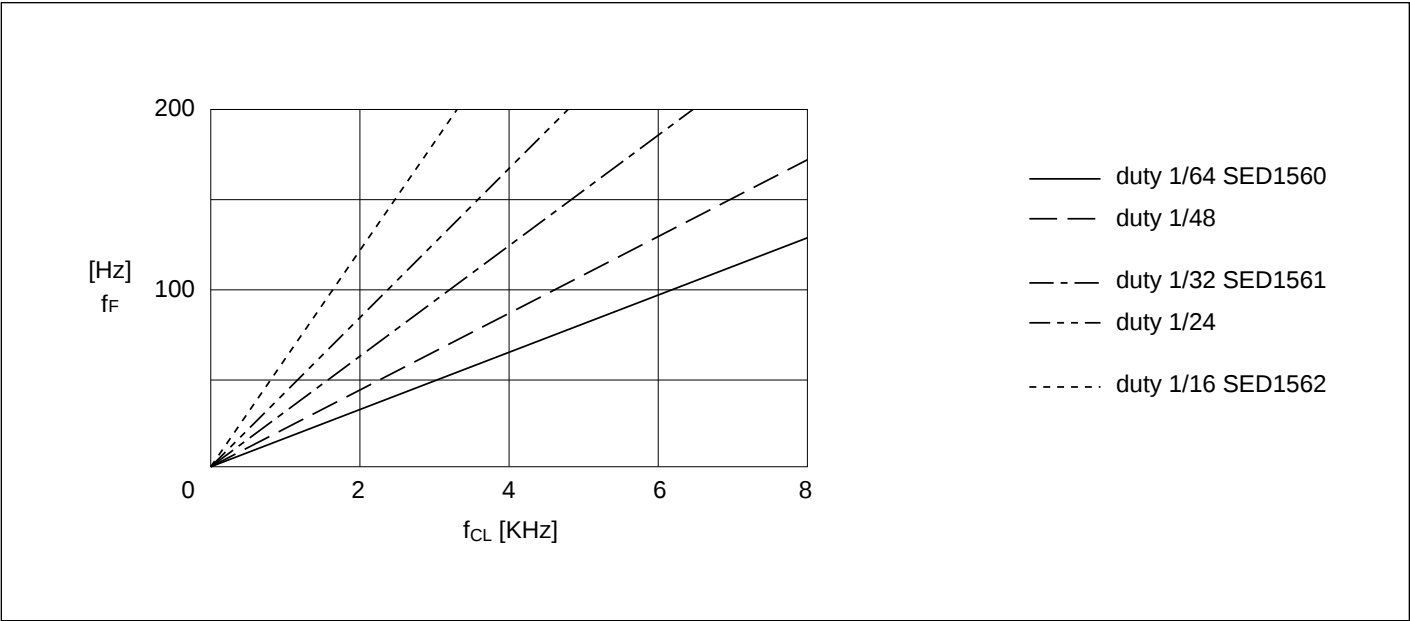
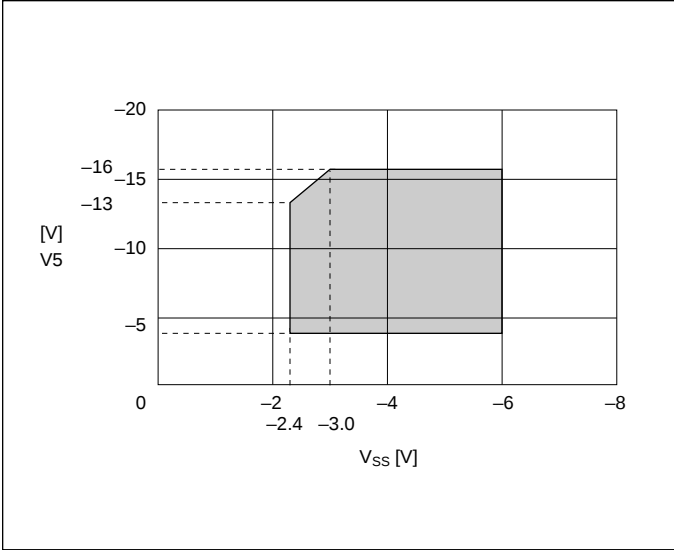

Figure 3.2 External clock (f_{CL}) vs. frame frequency [SED1560 Series]
Figure 3.3
- *2. The operating voltage range of the Vss and V5 systems (see Figure 3.3). The operating voltage range is applied if an external power supply is used.
- *3. Pins A0, D0 to D7, RD (E), WR (R/W), CS1, CS2, FR, SYNC, M/S, C86, SI, P/S, T1 AND T2.
- *6. Pins A0, RD (E), WR (R/W), CS1, CS2, CL, M/S, RES, C86, SI, SCL, P/S, T1, and T2.
- *8. The resistance when the 0.1 -volt voltage is applied between the "On" output terminal and each power terminal (V1, V2, V3 or V4). It must be within the operating voltage (2).
- *9. The relationship between the oscillation frequency, frame and Rf value (see Figure 3.2).